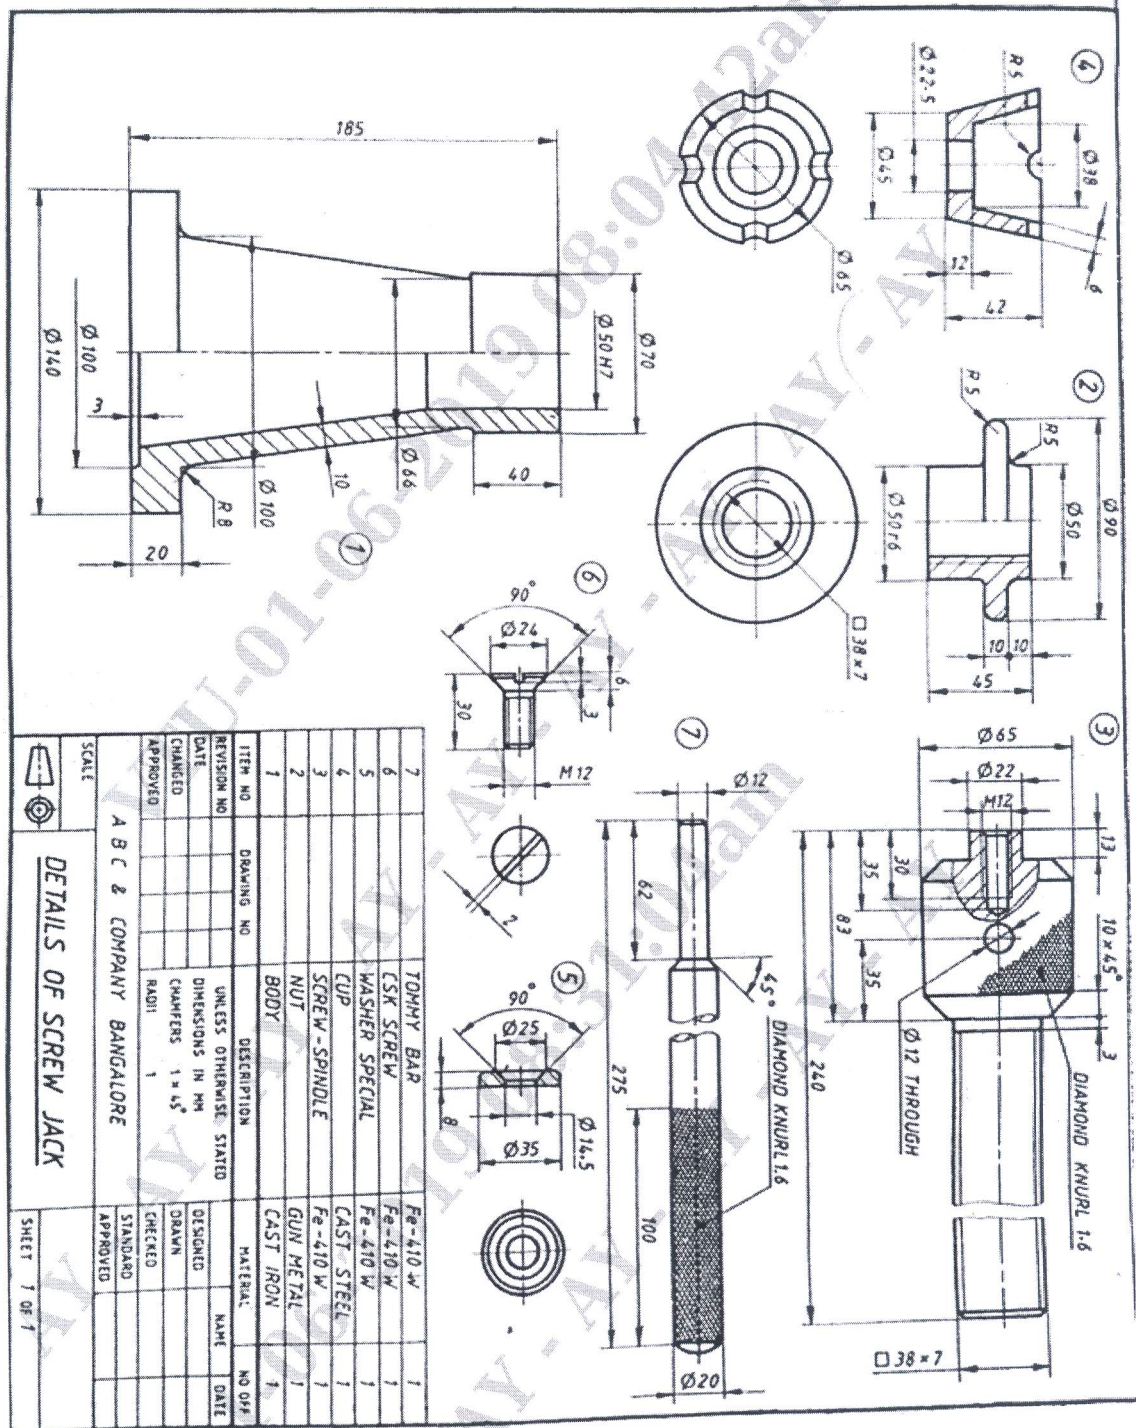

Figure 3:- Screw Jack
6. Figure 3 shows the details of a screw jack. Assemble the parts of the screw jack and show the following views.